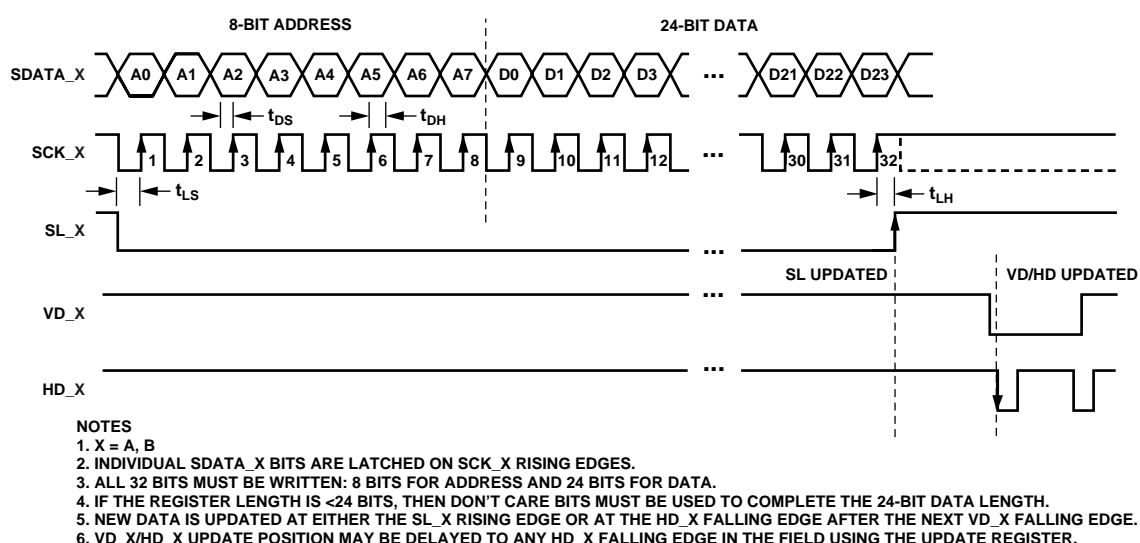

Figure 14. Serial Write Operation
All of the AD9942 internal registers are accessed through a 6-wire serial interface. Each register consists of an 8-bit address and a 24-bit data-word. Both the 8-bit address and 24-bit data-word are written starting with the LSB. To write to each register, a 32-bit operation is required, as shown in Figure 14. Although many registers are less than 24 bits wide, all 24 bits must be written for each register. If the register is only 16 bits wide, then the upper 8 bits may be filled with 0s during the serial write operation. If fewer than 24 bits are written, the register is not updated with new data.
- All registers are VD\_X/HD\_X updated as shown in Figure 14, except for the registers indicated in Table 8, which are SL\_X updated.